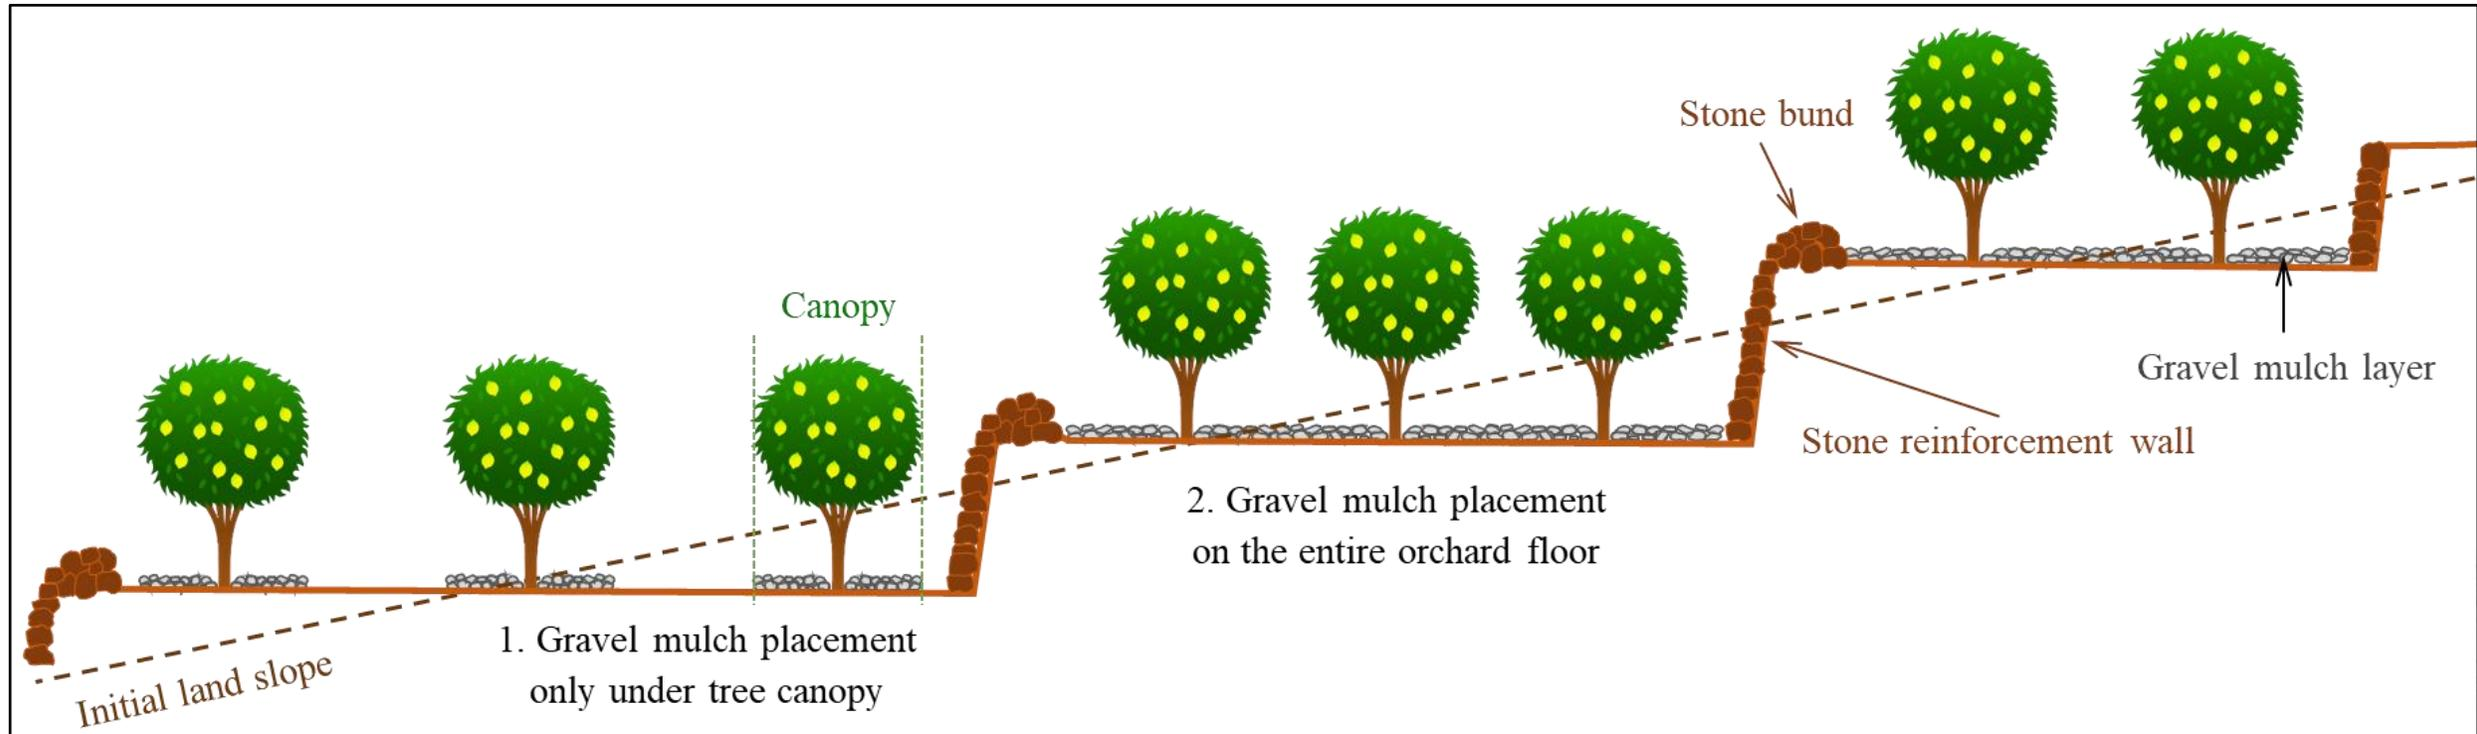

Figure 1. Schematics of terracing and gravel mulch placement in the orchards.
- Hence, water runoff is reduced and more water infiltrates into the soil (Figure 1).